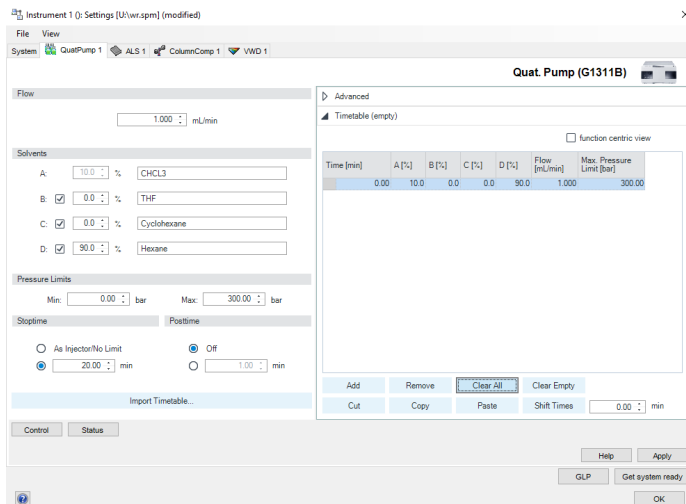

Figure 3. Instrument Manager window
1. Open the WinGPC ChromPilot instrument manager (Figure 3), select the **Pump** tab, and import the first XML file.